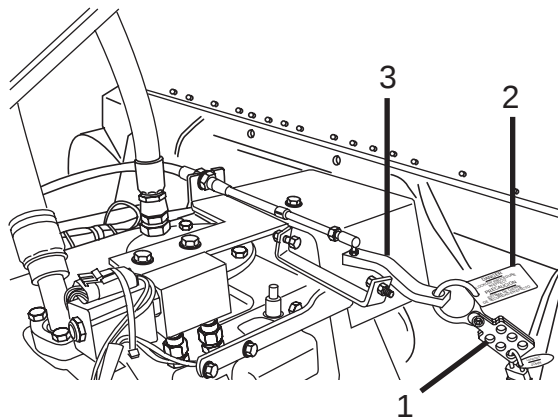

Figure 12
4. Remove padlock(s) from safety lock-out hasp, and remove the hasp (Figure 12, Item 1) and red-and-white “Danger: Lock-Out Procedure in Effect” tag (Figure 12, Item 2) from the pump control lever (Figure 12, Item 3).